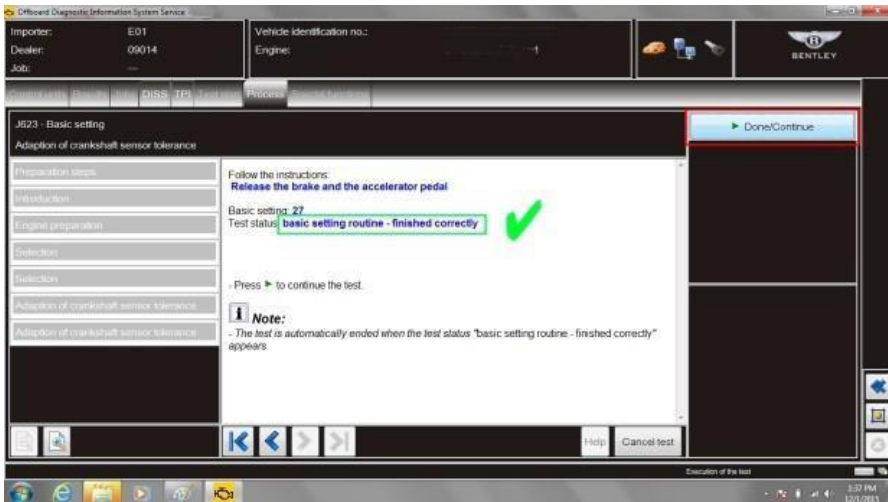

Figure 23
- When test is complete screen status will show *basic setting routine – finished correctly*, as instructed release both brake and accelerator pedal and select *Continue* (see Figure 23)